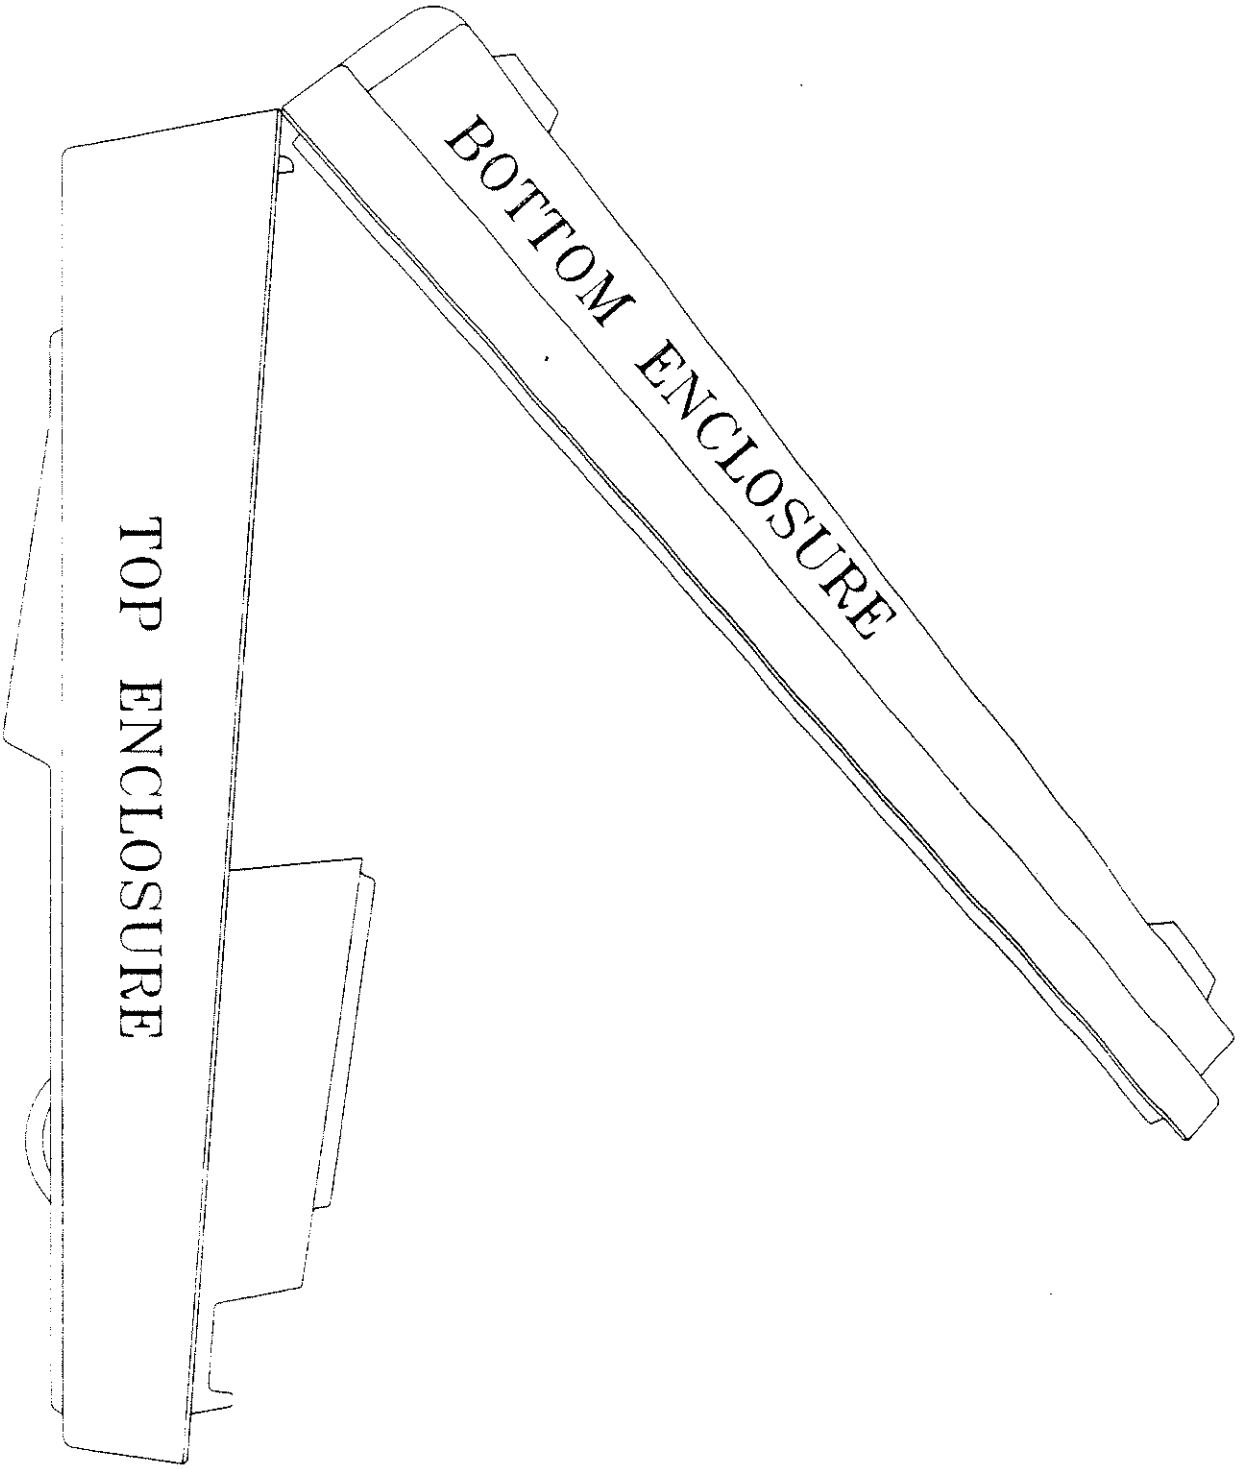

FIGURE 5
17. Lift the bottom enclosure, place its back edge (the edge with the Kurzweil logo) on the back edge of the top enclosure, and hold the unit partially open as shown in figure 5.